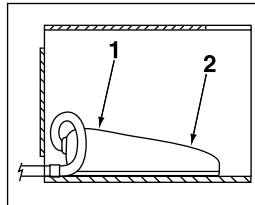

Figure 8
5.3 Foot Switch Option (see Figure 8)